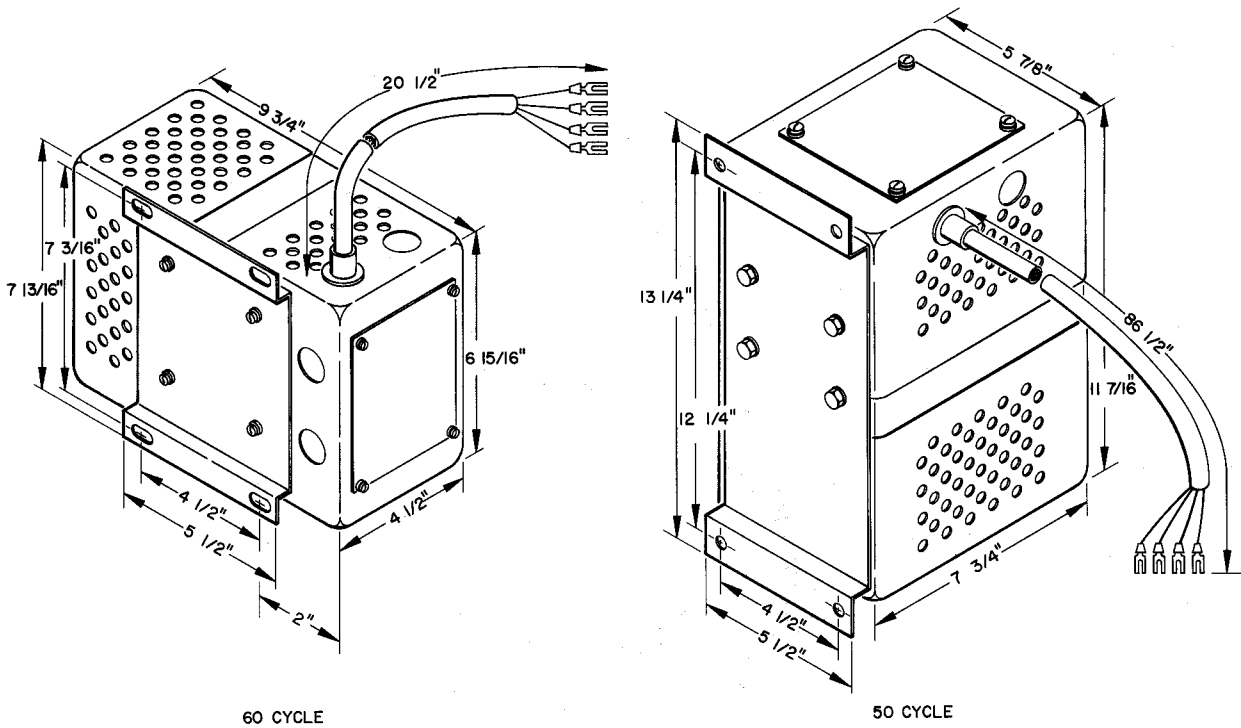

Figure 2-5
Step 7: Using the dimensions and mounting details shown in Figure 2-5, select a location for the voltage regulator. Mount this unit using the hardware provided.